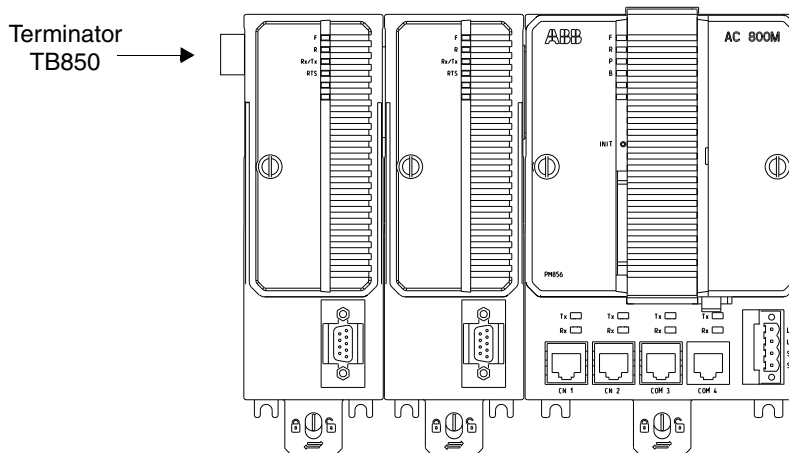
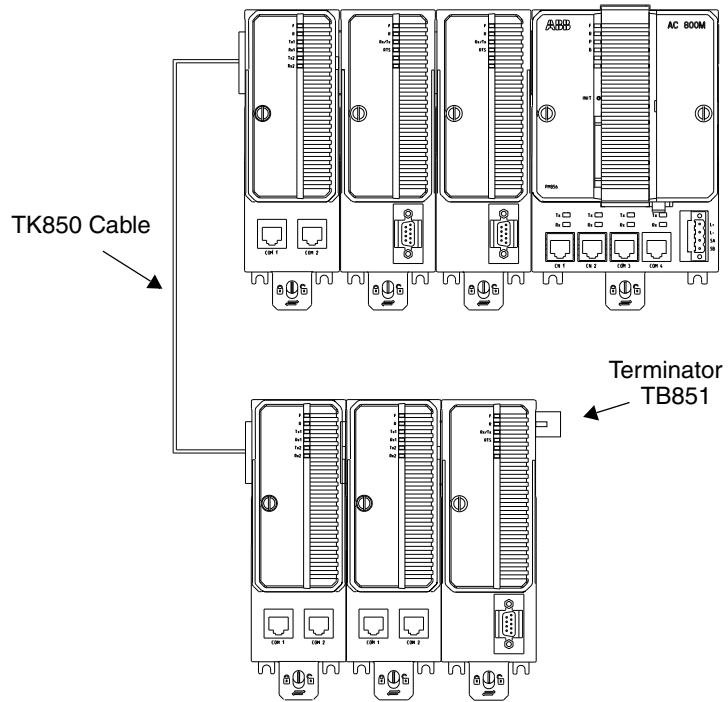
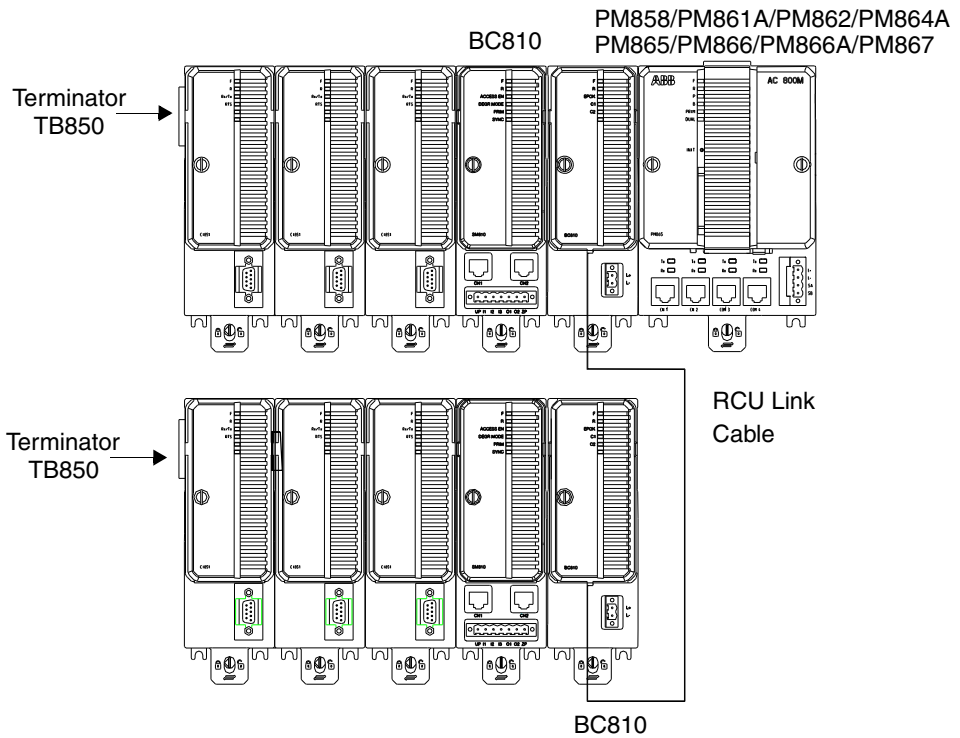

Figure 25. TB850 Terminator for CEX-Bus (male)
Figure 26. TB851 Terminator for CEX-Bus (female)
Figure 27. CEX-Bus Terminator when using BC810/BC820
- a. For CEX-Bus TB850 (TB851 if cable TK850 is used), see Figure 25 on page 86 and Figure 26 on page 87. When using BC810/BC820, see Figure 27 on page 88. If no units are used on the CEX-Bus, no bus termination is required.